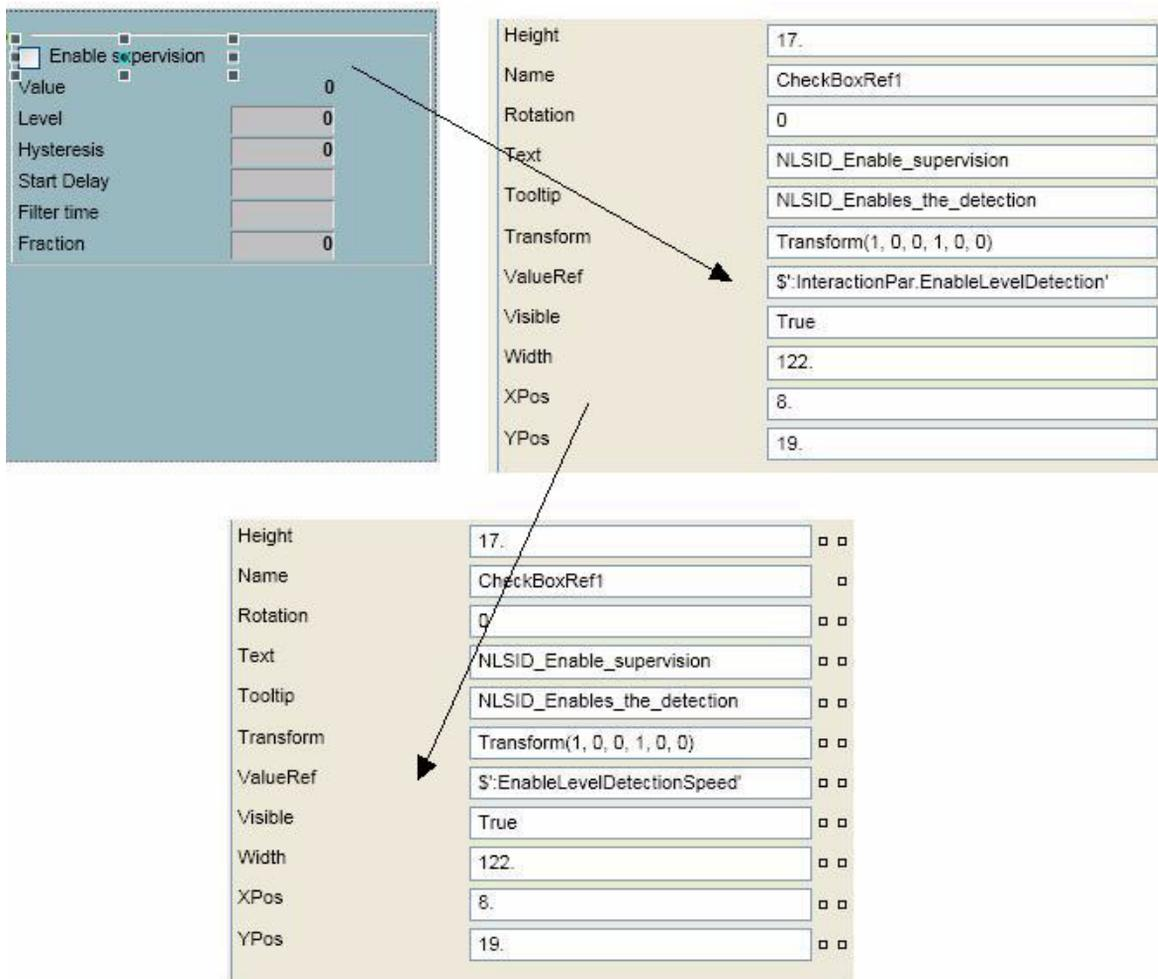

Figure 253. Changing the signals from EnableLevelDetection to EnableLevelDetectionSpeed
8. Reconnect the graphic (which is connected to signals in the LevelDetection function block) to the signals used in the LevelDetectionSpeed function block. The following steps, along with Figure 253, describe how to reconnect signals for the EnableSupervision graphic: